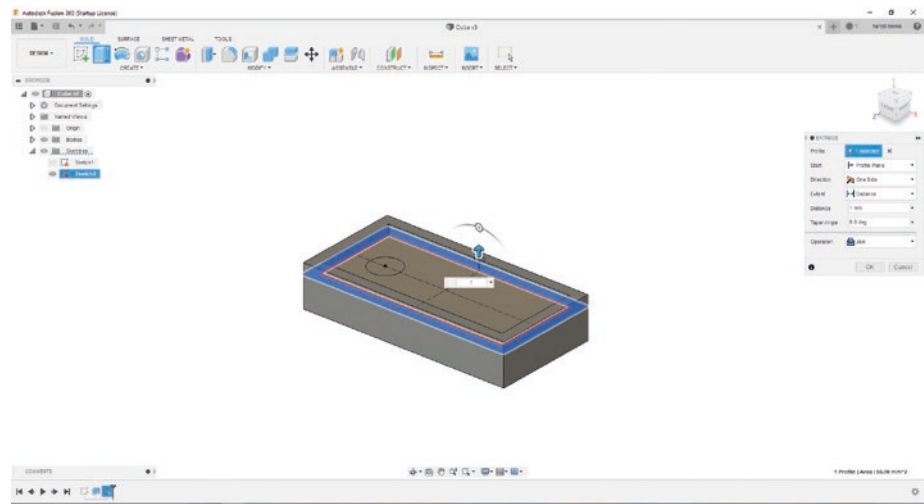

Figure 3-70. *Extrude the border to 1mm*
- 25. Now click the Extrude button on the “CREATE” menu and click the border area we created with the Offset function; extrude the border 1mm. Press “Enter” when you are finished. See Figure 3-70.